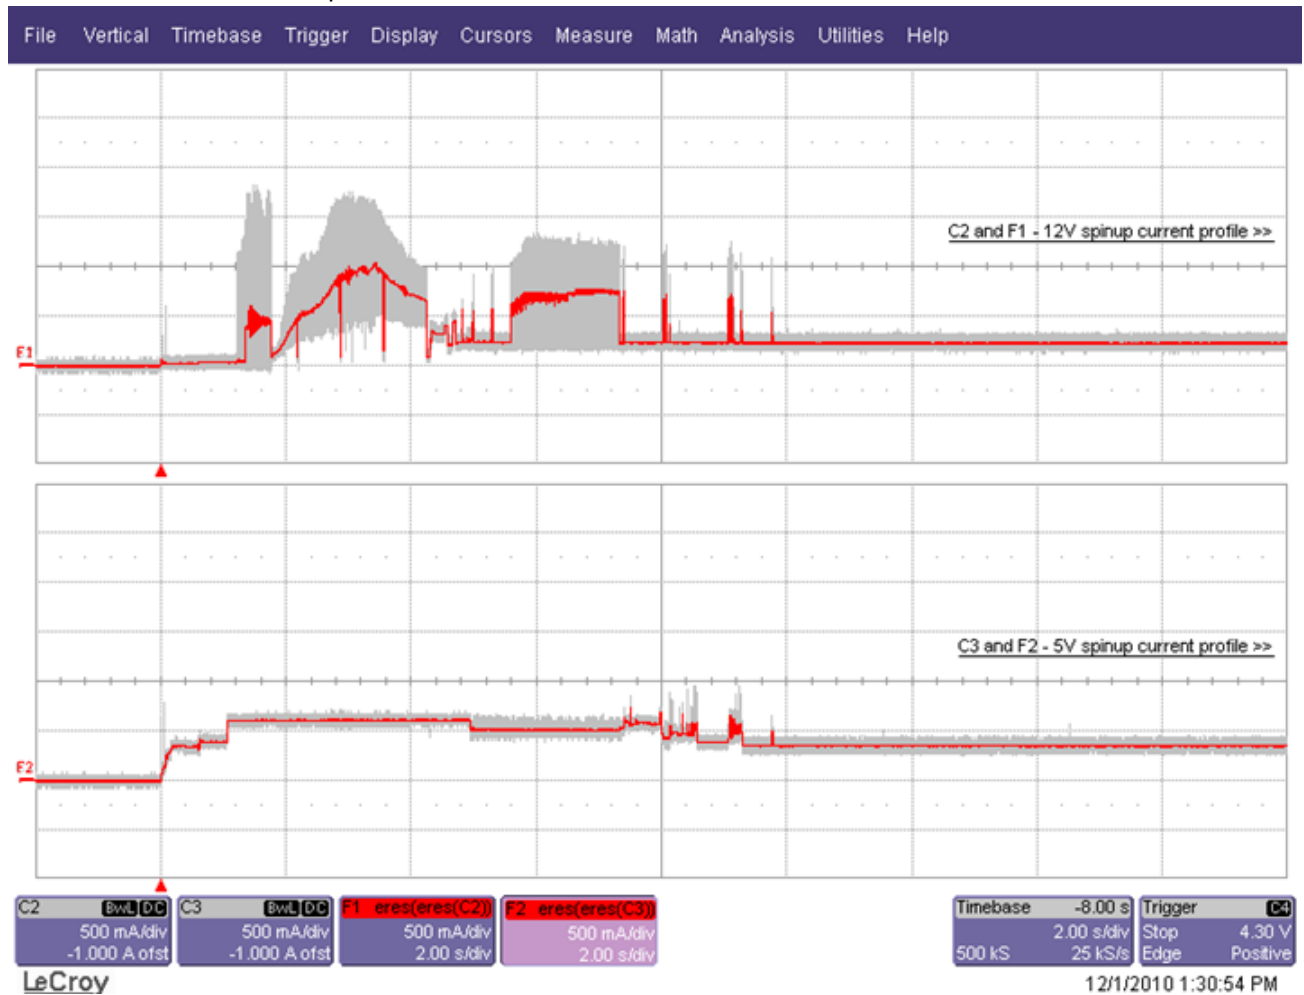

Figure 1. Current profile for 300GB models.
- [3] See +12V current profile in Figure 1.